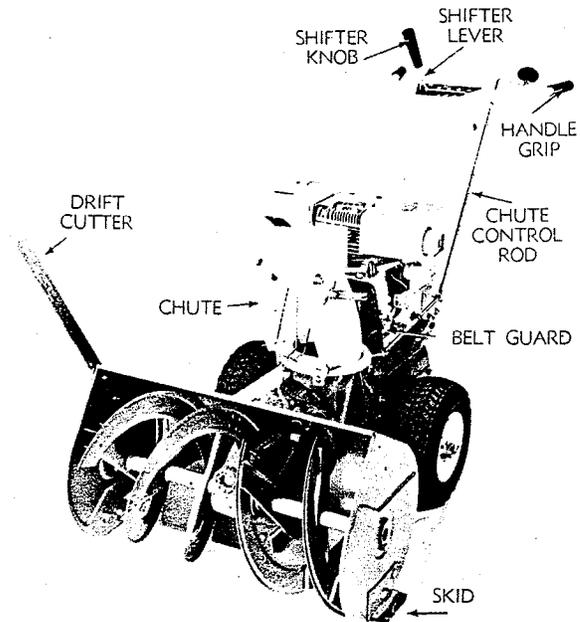

FIG. 3
2. Slide chute control rod through hole in top part of handle bar shroud (Fig. 3). Secure rod to universal with special stainless cotter pin (Fig. 2). (Red or blue).
4. Attach the skids (Fig. 3) to auger housing with carriage bolts, flatwashers, and hex nuts. Insert the carriage bolts from the outside in.
6. Attach knob to shifter control. (Fig. 3).
7. Attach drift cutter (Fig. 3) to snow thrower (especially for deep snow conditions). Be sure the slanted edge of the drift cutter is towards the front and that the capscrews go from the outside in.
This lever engages and disengages drive to the wheels as well as control direction and speed of travel. The shifter lever is located in top of handle bar shroud. (Fig. 3).
This rod is used to change the direction of snow discharge. It is located in the side of the handle bar. (Fig. 3). Turn knob clockwise or counter-clockwise for full 180° rotation of snow chute.
The deflector determines the distance snow is thrown. It is located on top of the snow chute. (Fig. 3). Moving top of the deflector down decreases the distance of throw and raising the deflector increases the distance of throw. The deflector can be simply moved by loosening the two wing nuts, adjusting and then retightening the nuts. **CAUTION:** Stop engine before changing position of deflector.
The skids (Fig 3), mounted on each side of the auger housing, adjust the distance the scraper blade is raised above the ground surface. When removing snow from a gravel or uneven surface, it is advisable to keep the scraper blade as high above the surface as possible to prevent possible damage to the auger. On a blacktop or concrete surface, keep the scraper blade as close to the surface as possible. To adjust skids, raise Snow Throwing a few inches off the ground and loosen the nuts securing the skids to the auger housing. Move skids up or down to desired position and tighten nuts securely. Adjust both skids to the same height to keep the auger level.
- A. Remove belt guard. (Fig. 3).